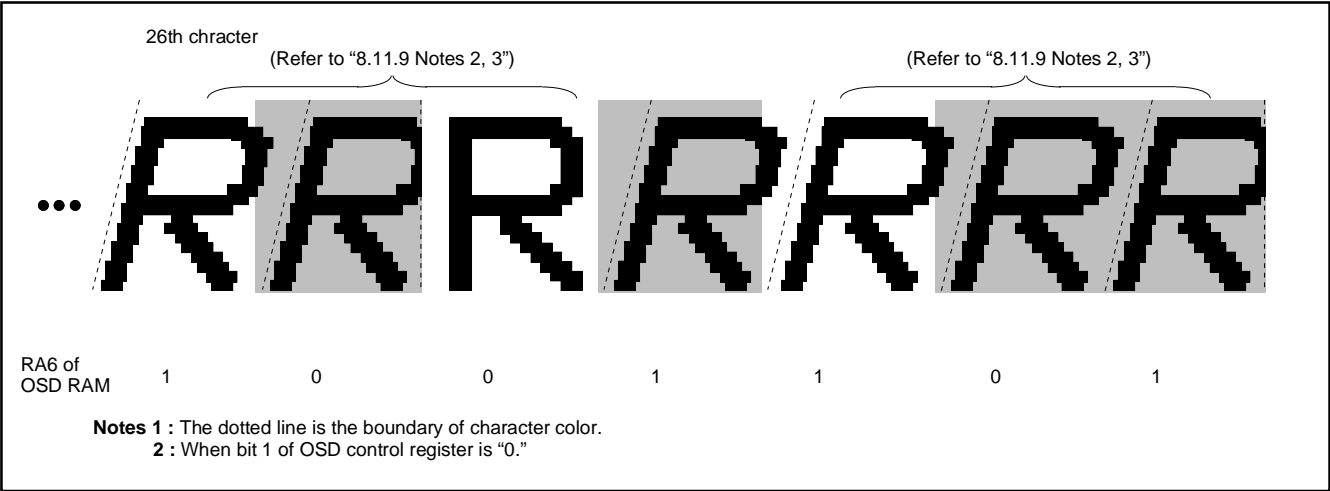

Fig. 8.11.20 Example of Italic Display
- 2: The boundary of character color is displayed in italic. However, the boundary of character background color is not affected by the italic (refer to Figure 8.11.20).
- 3: The adjacent character (one side or both sides) to an italic character is displayed in italic even when the character is not specified to be displayed in italic (refer to Figure 8.11.20).